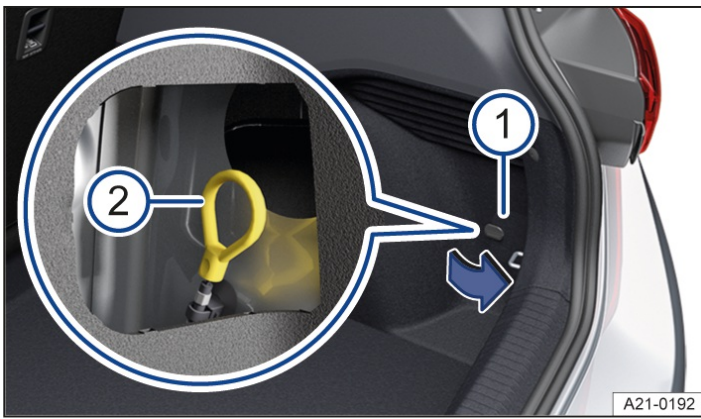

Fig. 2 Behind the flap in the right-hand luggage compartment trim: manual release mechanism for the charging connector.
There is a flap with a catch on the bottom right-hand side of the luggage compartment → Fig. 2.
6. Pull the loop for manual release → Fig. 2 ②.